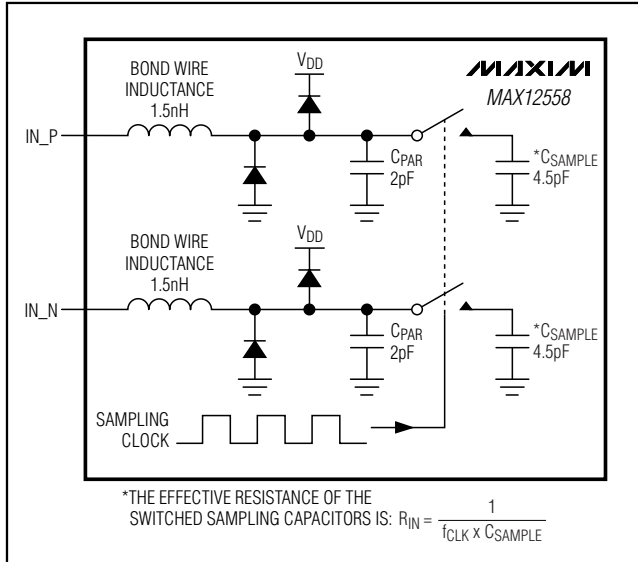
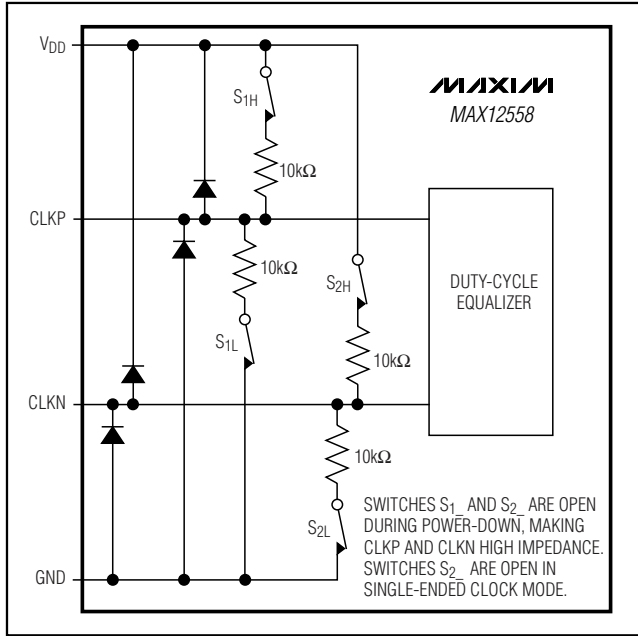

Figure 3. Internal T/H Circuit
Figure 4. Simplified Clock Input Circuit
Figure 3 displays a simplified functional diagram of the input T/H circuit. This input T/H circuit allows for high analog input frequencies (high IF) of 175MHz and beyond and supports a  $V_{DD} / 2$  common-mode input voltage.
The MAX12558 sampling clock controls the switched-capacitor input T/H architecture (Figure 3) allowing the analog input signals to be stored as charge on the sampling capacitors. These switches are closed (track mode) when the sampling clock is high and open (hold mode) when the sampling clock is low (Figure 4). The analog input signal source must be able to provide the dynamic currents necessary to charge and discharge the sampling capacitors. To avoid signal degradation, these capacitors must be charged to one-half LSB accuracy within one-half of a clock cycle. The analog input of the MAX12558 supports differential or single-ended input drive. For optimum performance with differential inputs, balance the input impedance of IN\_P and IN\_N and set the common-mode voltage to mid-supply ( $V_{DD} / 2$ ). The MAX12558 provides the optimum common-mode voltage of  $V_{DD} / 2$  through the COM output when operating in internal reference mode and buffered external reference mode. This COM output voltage can be used to bias the input network as shown in Figures 9, 10, and 11.
The MAX12558 accepts both differential and single-ended clock inputs with a wide 25% to 75% input clock duty cycle. For single-ended clock input operation, connect DIFFCLK/SECLK and CLKN to GND. Apply an external single-ended clock signal to CLKP. To reduce clock jitter, the external single-ended clock must have sharp falling edges. For differential clock input operation, connect DIFFCLK/SECLK to  $O_{VDD}$ . Apply an external differential clock signal to CLKP and CLKN. Consider the clock input as an analog input and route it away from any other analog inputs and digital signal lines. CLKP and CLKN enter high impedance when the MAX12558 is powered down (Figure 4).
- 1) INAP/B, INAN/B analog inputs are disconnected from the internal input amplifier (Figure 3).
- 6) CLKP, CLKN clock inputs enter a high-impedance state (Figure 4).